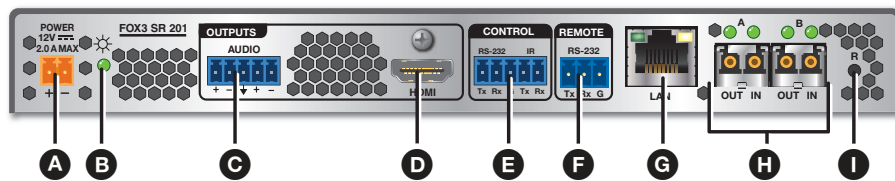

Figure 2. FOX3 Scaling Receiver Rear Panel Features
- E Control RS-232/IR port** (see figure 2 on page 5) — Connect a serial RS-232 signal, a modulated or unmodulated IR signal, or both to this 5-pole captive screw port for bidirectional RS-232 and IR communication (see RS-232 and IR Connectors on page 11 to wire the connector).
H SFP module and LEDs — (see figure 2)